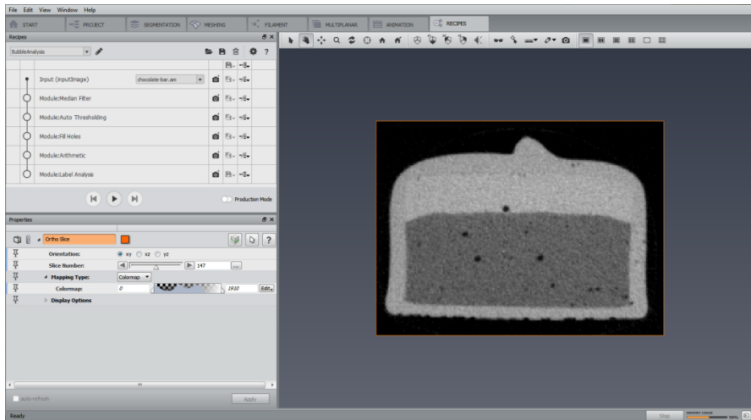

Figure 15.6: Recipes Workroom
- Attach a *Create Recipe* module to *Result.label* (result from previous *Label Analysis* module), and click **Apply**. Avizo will switch automatically to the *Recipes* workroom (see Figure 15.6).